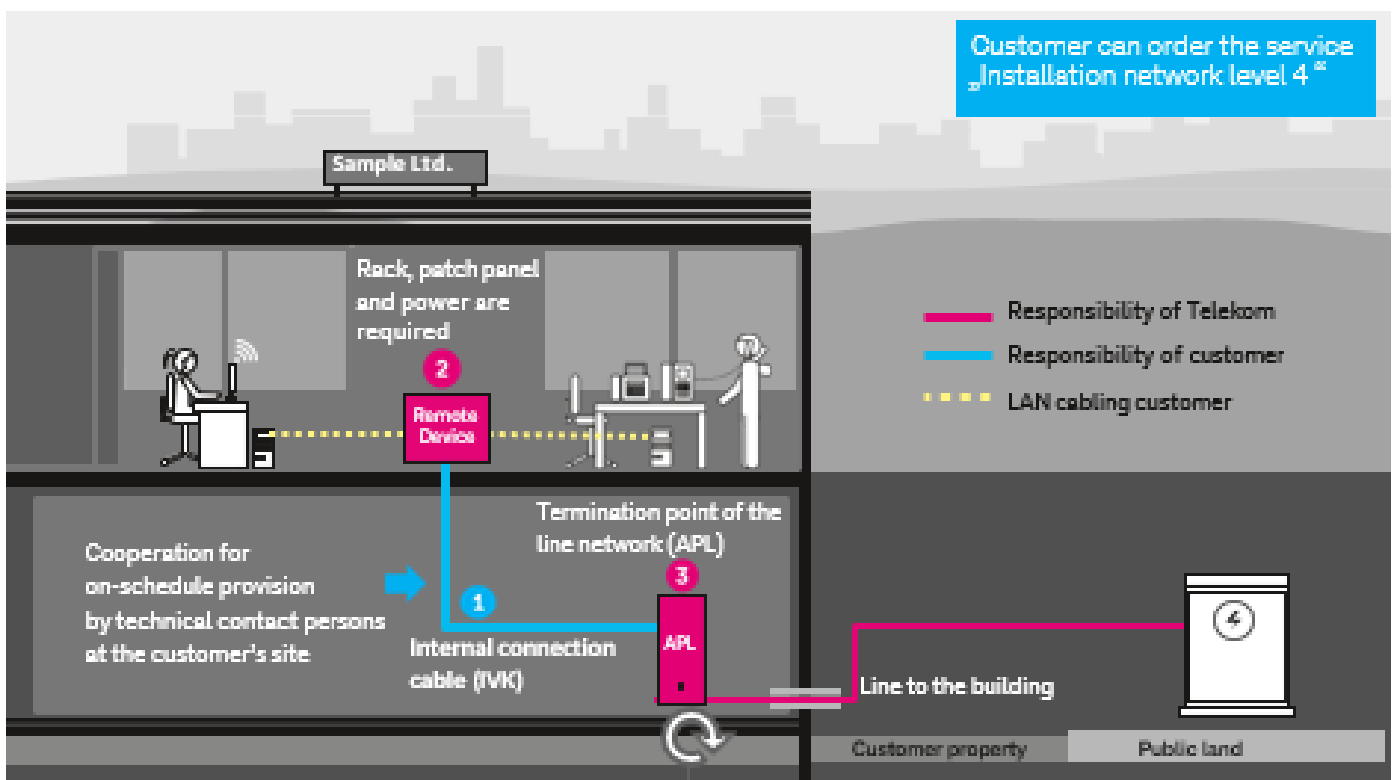

Fig. 1: In-house network
An **internal connection cable** ① is required for setting up the connection - **this is your responsibility**. Please ensure that the conditions listed below (free capacities and technical specifications) are met. We transfer your access to a remote device ② (device for network termination, see Fig. 1) which is usually not in the same room as Telekom's demarcation point (APL) ③. As a result, the connection between the remote device and the copper or fibre optic demarcation point must be made via the in-house network. The internal connection cable needs to be expanded if no suitable cable is available or if the free capacities are insufficient. This can be carried out by Telekom as part of the standard installation rules, i.e. indoor cabling up to 15m – you can read the details in the Regeln für die Standardinstallation. **Often however, more extensive measures are necessary. In that case, you as the client will be responsible for expanding the internal connection cable in good time.** If your premises are rented, please also remember to obtain the necessary approvals from the owner beforehand and coordinate the set-up with him.